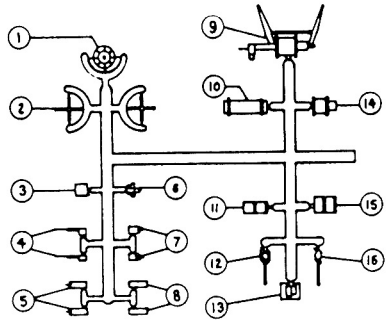

Figure 2
Figure 2 identifies the brake gear components on the brake parts sprue.
1. Remove the following parts from the brake gear fret, using Figure 2 for reference.